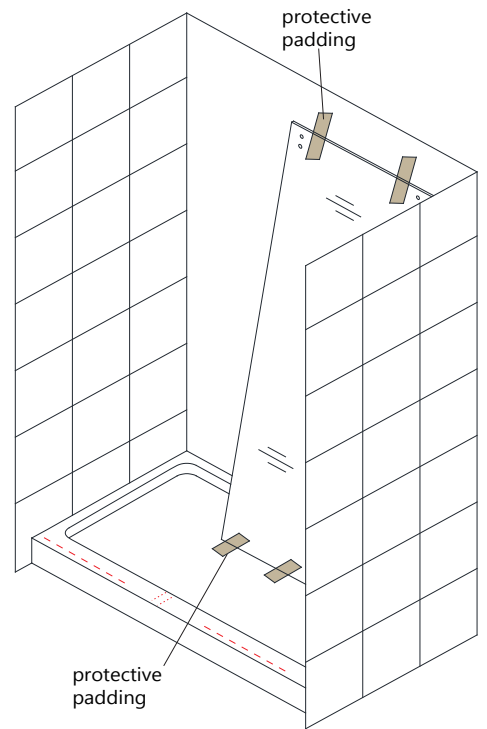

**Fig 10**
**\*\*Drill the holes for the Guide Rail Brackets (#08) using a Ø3/8" drill bit and insert the Wall Anchors (9a). (Fig. 10)**